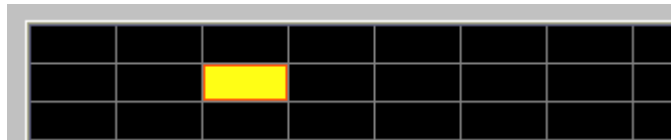

Figure 10-9: Select an empty space
Step 4. Click on an empty space that represents an empty canister or drive bay within the Enclosure window (horizontal or vertical). The space you selected will be, as seen in *Figure 10-9*, highlighted by different color.